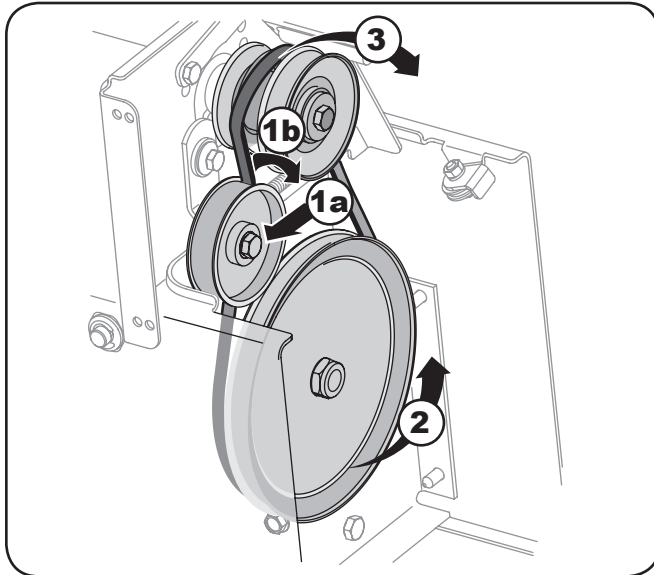

Figure 7-8
1. Pull the idler pulley away from the backside of the drive belt to relieve the tension and slip the drive belt off the idler pulley. Carefully release the idler pulley. See Figure 7-8.